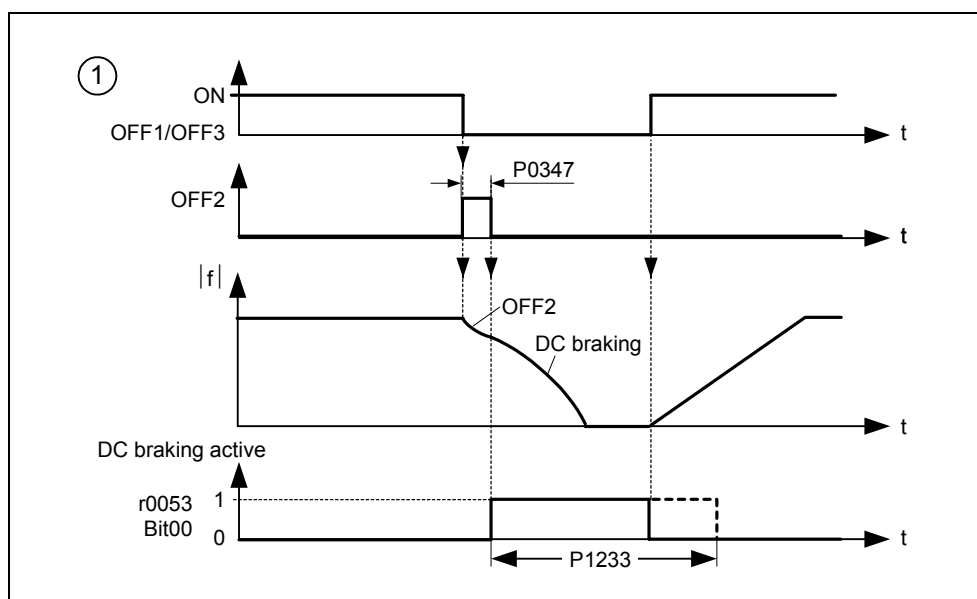

Fig. 3-51 DC braking after OFF1 / OFF3
2. DC braking is activated with the OFF1 or OFF3 command (refer to Fig. 3-51)